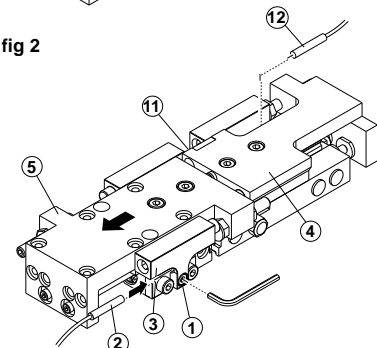

fig 3
1. Loosen M5 conternut (1) of stop screw (2).
2. Adjust stop screw (2) to precise travel path. (Adjustment range 0-15mm)
3. Lock stop screw (2) with conternut (1).
#### Adjustment of limit switch (ES), fig 3
1. Loosen M3 clamping screw (1).
2. Slide limit switch (2) from rear into stop block guide (3) up as far as stop.
#### Adjustment of limit switch (ES), intermediate stop, fig 3
1. Loosen M3 clamping screw (11).
2. Slide limit switch (12) from rear into guide of rear carriage body (4).
3. Slide both carriage bodies together, adjust the limit switch (12) in such a way that the distance between the limit switch (12) and the front carriage body (5) is about 0.5 mm.